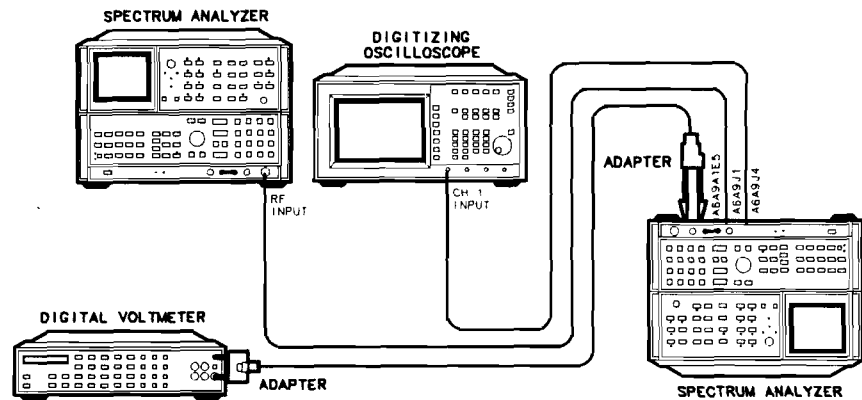
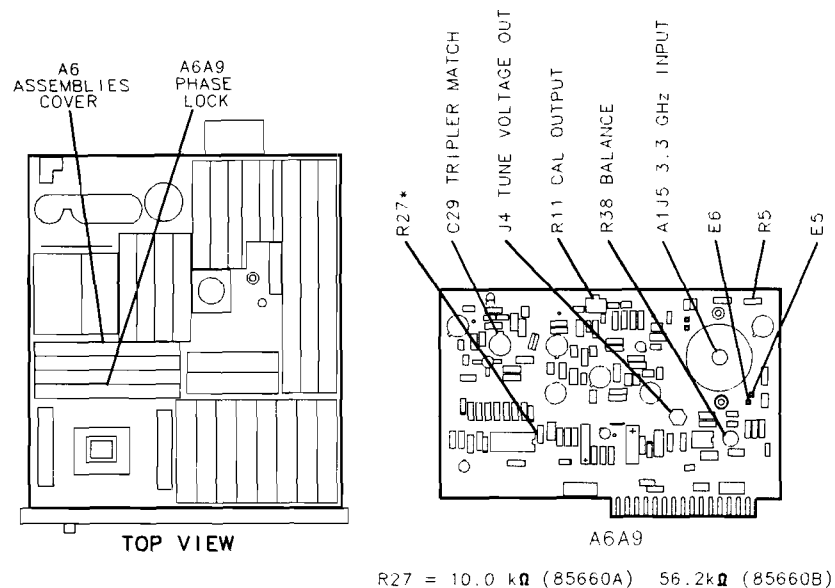

Figure 3-81. RF Module Phase Lock Adjustments Setup
Figure 3-82. Location of RF Module Phase Lock Adjustments
Procedure	1. Set the spectrum analyzer LINE switch to STANDBY. Turn the spectrum analyzer over to position the RF Section on top, as shown in Figure 3-81, and remove the RF Section bottom cover. 2. In the RF Section, disconnect the cable 84 gray/yellow from A6A12J1 and the cable 82 (gray/red) from A6A12J2. Remove the cover from the A6 RF Module, and then reconnect the cable 84 (gray/yellow) to A6A12J1 and the cable 82 (gray/red) to A6A12J2. Refer to Figure 3-82 for the location of the A6A12 YTX Driver Assembly and the A6 RF Module.
6. Connect the DVM to A6A9A1E5, and connect the DVM ground to the metal case/shield of the A6A9 Phase Lock Assembly. Refer to Figure 3-82 for the location of A6A9A1E5 and A6A9A1E6.
The voltage at A6A9A1E5 should fall in the range of -0.55 Vdc and -0.85 Vdc, and the voltage at A6A9A1E6 should fall in the range of 0.55 Vdc to 0.85 Vdc. If either of the voltages at A6A9A1E5 and A6A9A1E6 do not fall within these ranges, change the value of factory-select component A6A9A1R5. Decreasing the value of A6A9A1R5 decreases the magnitude of the voltages at both A6A9A1E5 and A6A9A1E6. Conversely, an increasing the value of A6A9A1R5 increases the magnitude of the voltages at both A6A9A1E5 and A6A9A1E6. Refer to Table 3-3 for the acceptable range of values for A6A9A1R5, and to Table 3-4 for HP part numbers. Refer to Figure 3-82 for the location of A6A9A1R5.
10. Verify that the loaded value of factory-select resistor A6A9A1R27 is 56.2K ohms. Refer to Figure 3-82 for the location of A6A9A1R27.